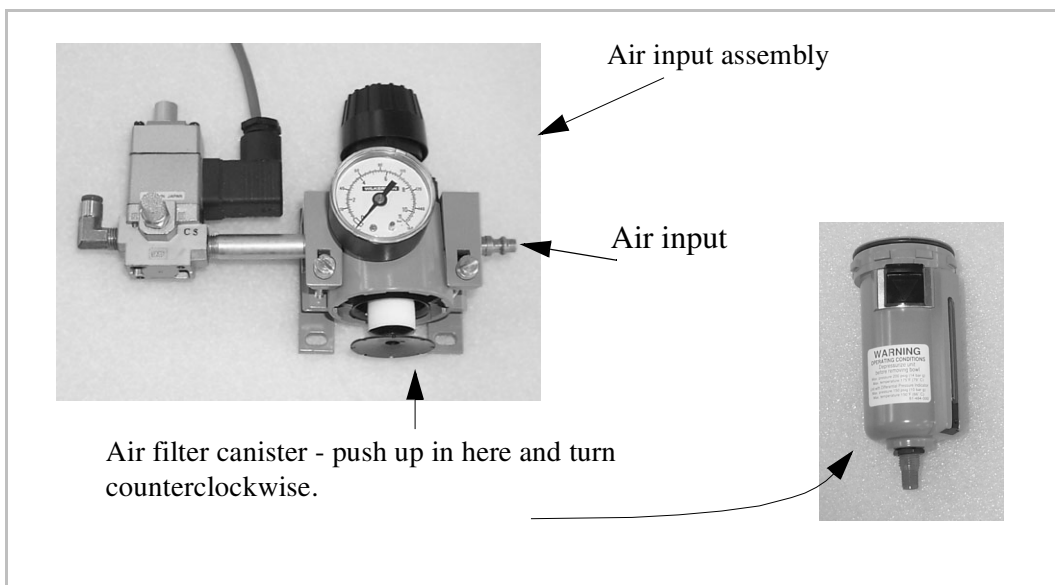

Figure 10 Air Input and Filter Canister
- 14. Compressed Air and Filter Canister Assembly** — Install the air filter canister by inserting and turning counter-clockwise. Connect the facility air input line. (see Figure 10)